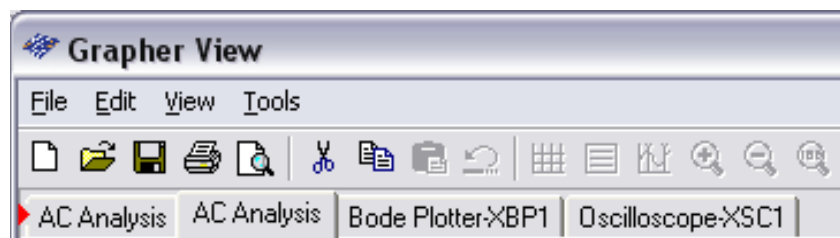

Figure E2-23. Grapher View graph tabs
12. Set the **Horizontal** initial (I) frequency to **1 Hz**.
16. In the Grapher View select the **Bode Plotter-XBP1** tab (Figure E2-23)